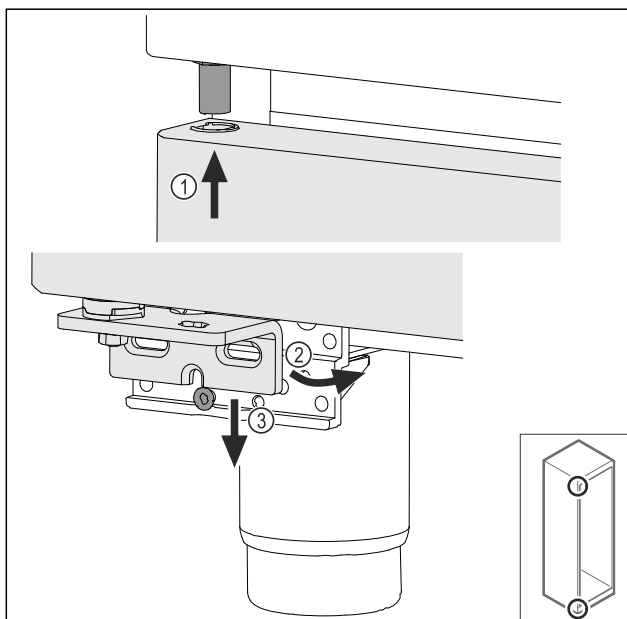

Fig. 45
- ▶ Insert the door slightly tilted at the top Fig. 45 (1), align the door straight Fig. 45 (2) and place it on the bottom of the swap bearing block screw Fig. 45 (3).